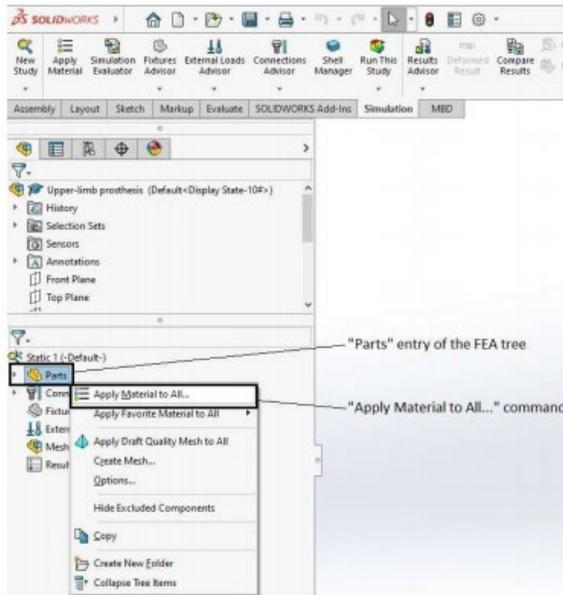
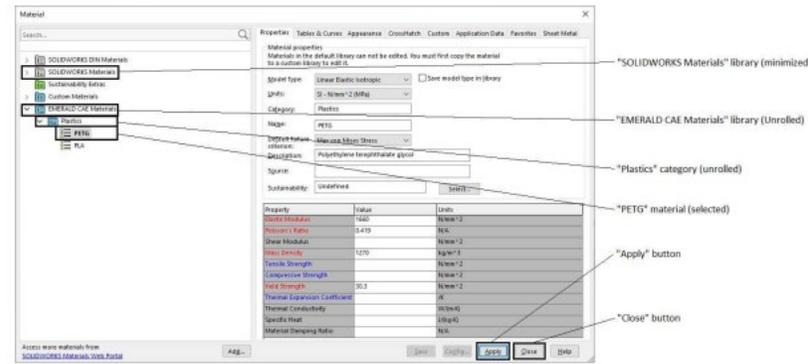

Figure 17: Defining the material properties of the prosthesis components
Figure 18: Associating the PETG material to the prosthesis components
f) Press the right button of the mouse on the “Parts” entry of the FEA tree and select the “Apply Material to All...” command from the drop-down menu to define the material properties of the prosthesis components (Fig. 17). Consequently, the “Material” window is displayed (Fig. 18). In that window, minimize the “SOLIDWORKS Materials” library, unroll the “EMERALD CAE Materials” library, unroll the “Plastics” category, select the “PETG” material, then press the buttons “Apply” and “Close” placed at the bottom of the “Material” window.
Note: The yield strength $Y = 30.3$ MPa (see the PETG material data listed in Table 1 and Figure 18) defines the upper limit of the von Mises equivalent stress that can be supported by the prosthesis components.